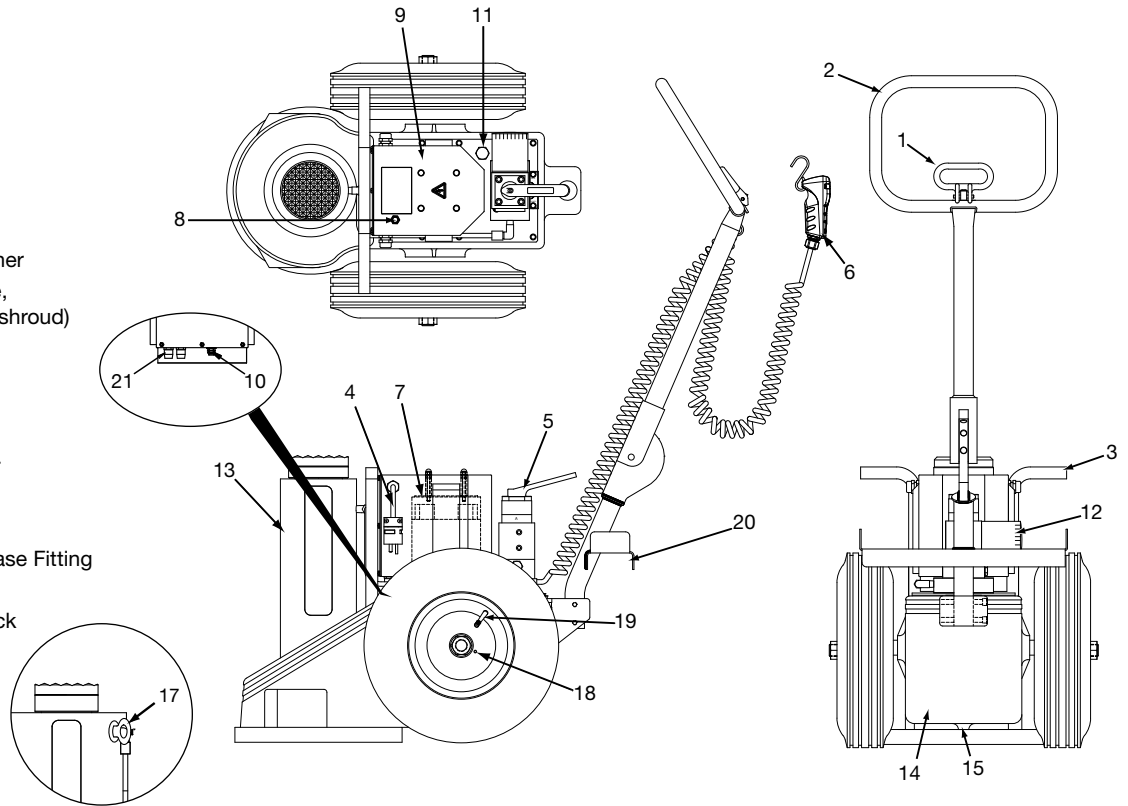

Figure 1, Major Features and Components - PREMB, PREME and PREMI Series (single-phase power)
Before startup, remove the oil fill plug (see figures 1 and 2, item #11) and check oil level. Oil level should be about 1 inch [25 mm] below top of reservoir. Add Enerpac HF hydraulic oil to reservoir if necessary. Refer to Section 6.1 for additional information.
Note: See figures 1 and 2 for items in parenthesis (. . .).
A resettable circuit breaker is used on all jack models equipped with a single-phase electrical system. This includes jack model numbers beginning with PREMB, PREME and PREMI. The circuit breaker reset button is mounted on the lower surface of the jack electrical enclosure. See Figure 1, item 10 for location.